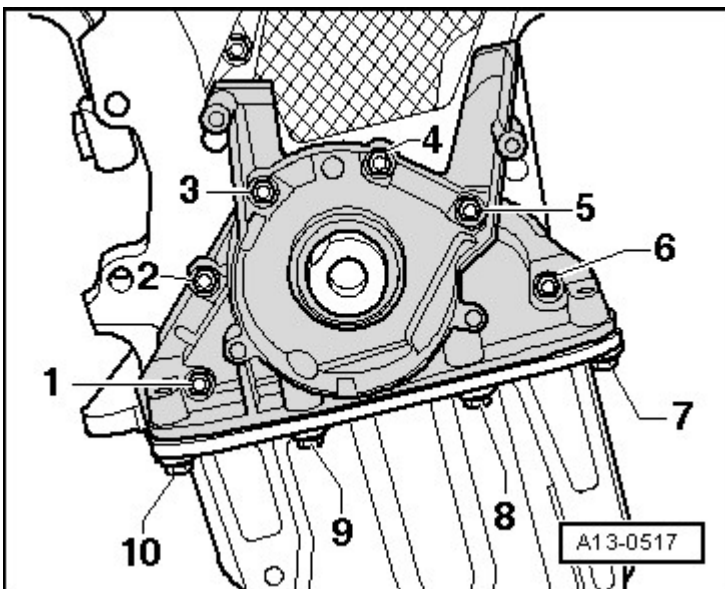

Fig. 5: Fastening Bolts In Specified Order
- Tightening sequence, refer to **Fig. 5**
- **Tightening sequence** , refer to **Fig. 5**